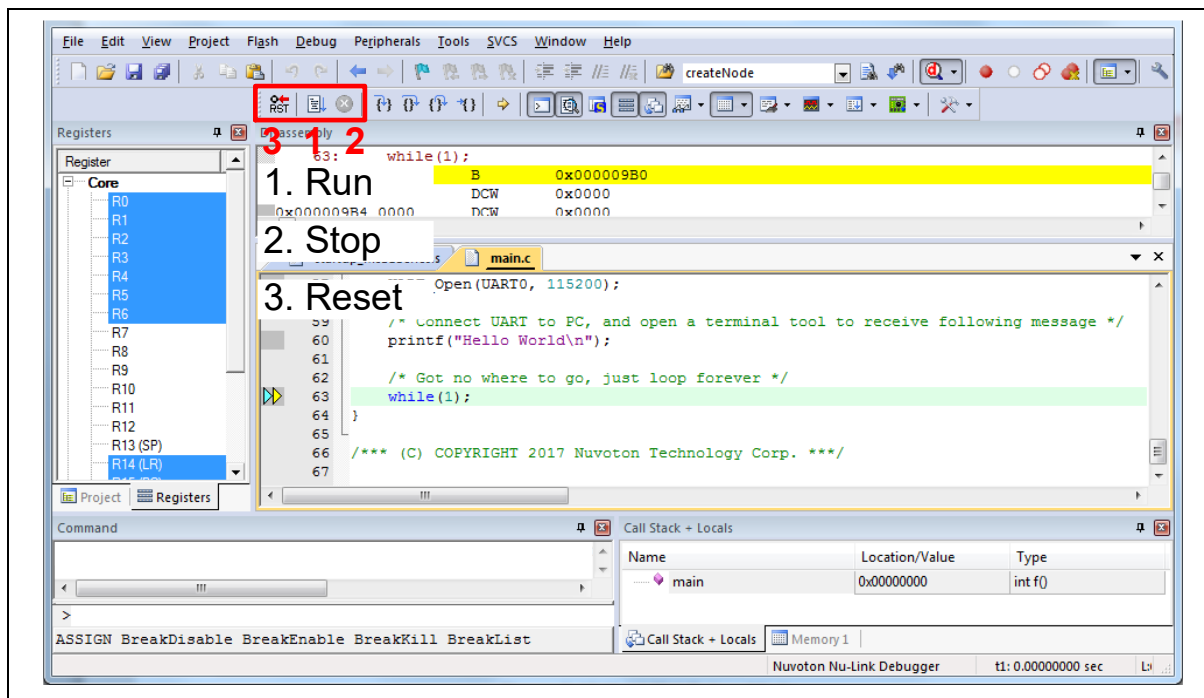

Figure 4.6-6 Keil MDK Debug Mode
8. Figure 4.6-6 shows the debug mode under Keil MDK. Click **"Run"** and the debug message will